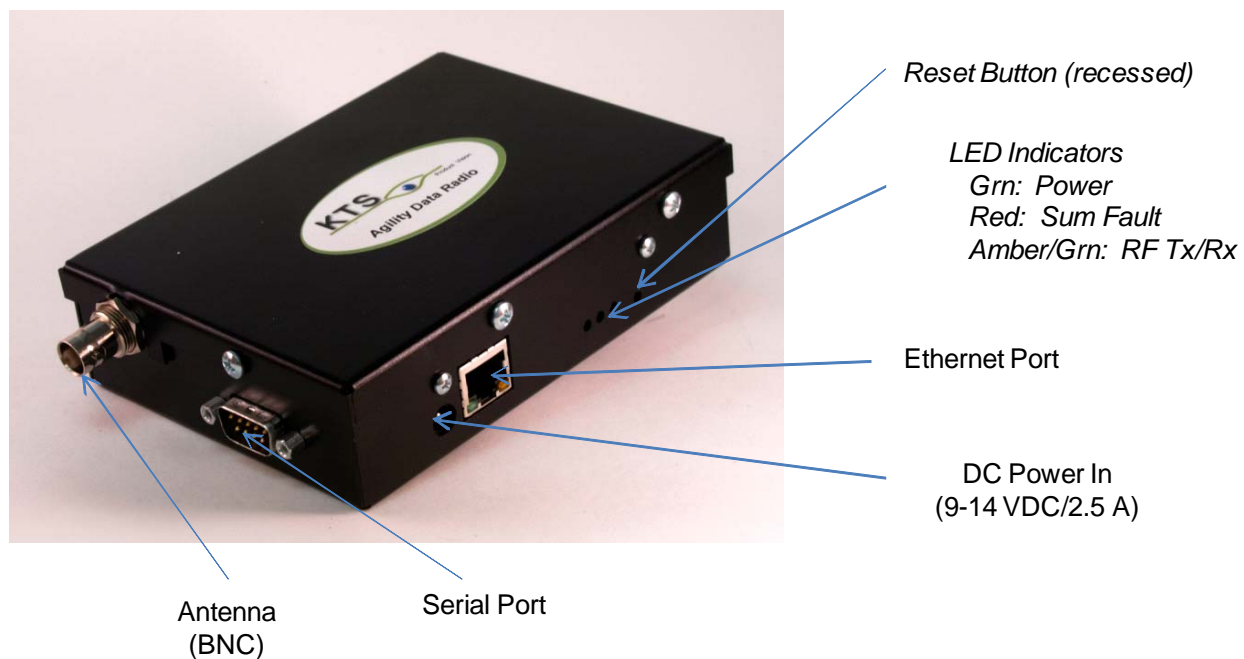
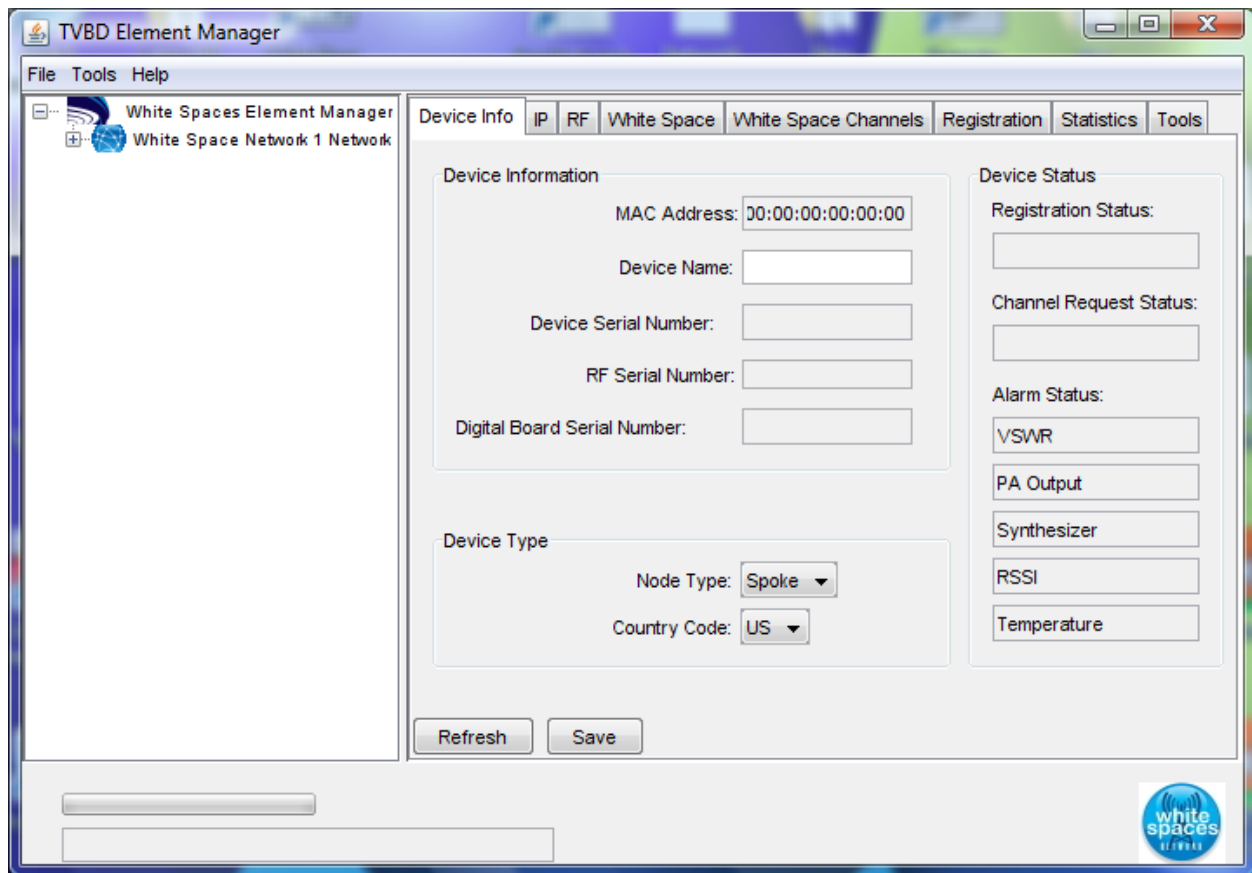

Figure 1: AWR Connections
Figure 3: TVBD EMS Main Screen
3. Locate the power source. The AWR requires a 9-14 VDC input and draws about 1.5 A (when transmitting). Power is supplied via the 2.5 mm connector on the side of the unit (See Figure 1).
6. After the installation process is complete and the EMS application is started, the Device Info screen will appear (See Figure 3, **Section 4.0 of this manual contains the details of using the TVBD Element Management System (EMS)**). Reference Section 4.0 for details on configuring the EMS and resetting AWR IP addresses (i.e., changing from the default value). **The default IP address of the AWR is 192.168.1.4.** **Note: Pressing and holding the recessed Reset button (See Figure 1) for at least 12 seconds will force the radio back to its default settings.**